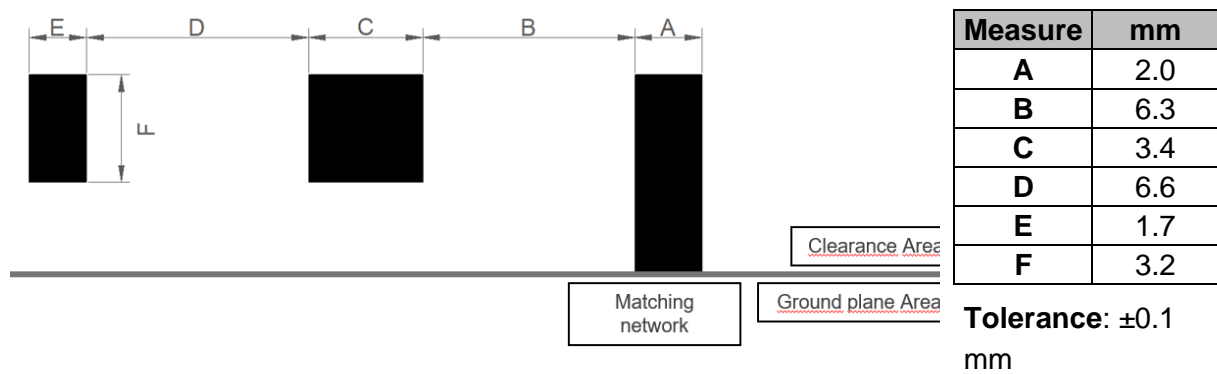

Figure 5 – Footprint dimensions for the double booster.
- Note that in this case the Evaluation Board (Figure 1) integrates two BAR mXTEND™ antenna boosters that are placed together to provide operation at LTE700 (698 – 798 MHz). Please see Figure 5 for the recommended footprint.